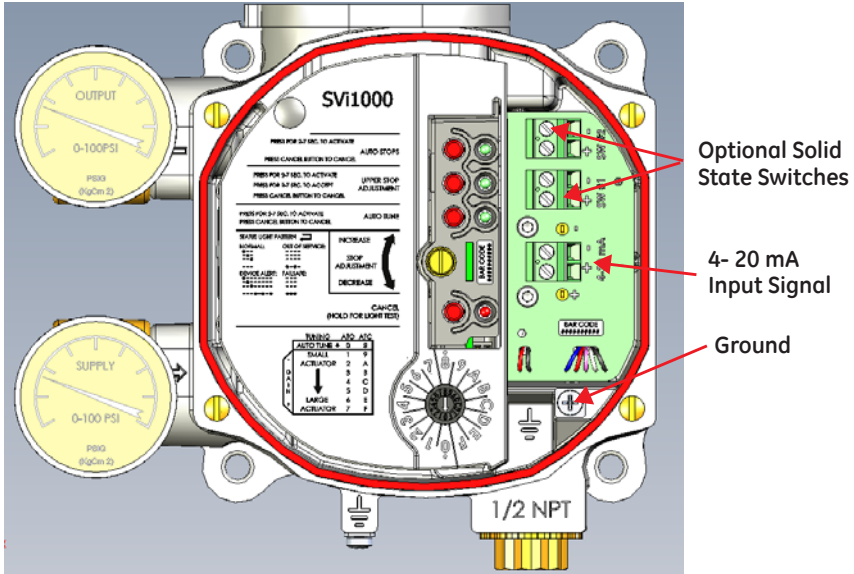
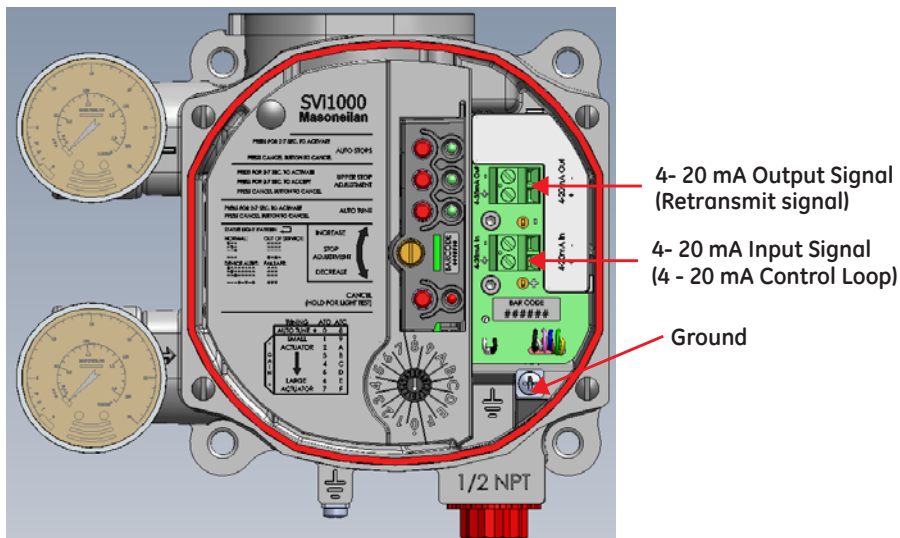

Figure 19 Connections to Electronics Module with Switches (via Interface Board)
Figure 20 Connections to Electronics Module with Position Retransmit (via Interface Board)
- b. Inserting the stripped end of the wires fully in to the appropriate terminal. Loosen the terminal screw if required to insert the wire. Refer to the label next to each screw terminal to determine the function of the terminal and correct polarity (see Figure 19 for 4 - 20 mA connections and Figure 20 on page 36 for position retransmit).